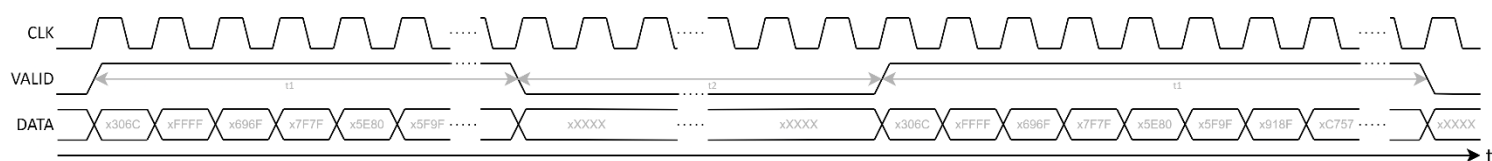
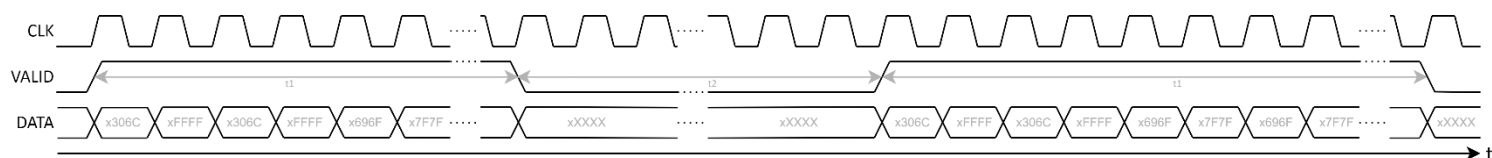

Figure 6: FCP signals for calibration with 125 MSps playback rate and 250 MHz clock. Figure not to scale.
Figure 7: FCP signals for calibration with 250 MSps playback rate and 500 MHz clock. Figure not to scale.
and so forth. *Figure 6* depicts how the I and Q data should be sent consecutively. Please make sure there is a new data sample at every rising clock edge. The data sample that arrives along with any rising edge of the valid bit must be an I data sample – not a Q data sample. However, this data sample does not necessarily have to be the i_0 sample. It can be any i_n sample if the consecutive data sample is the corresponding q_n sample.
- The order of I and Q samples needs to be changed slightly for calibration with a playback rate of 250 MSps. The sender must generate two pairs of IQ data samples as described in the above code example. The pairs are then sent to the FCP successively. *Figure 7* depicts the order of the required IQ data which is
The signal at the valid pin of the FCP (see [1] for details on pin mapping) must stay low while the FCP is being enabled. In *Figure 6* and *Figure 7* the time periods for which the valid signal is high or low are labeled t_1 and t_2 respectively. For calibration, these periods are required to be roughly 3 seconds.